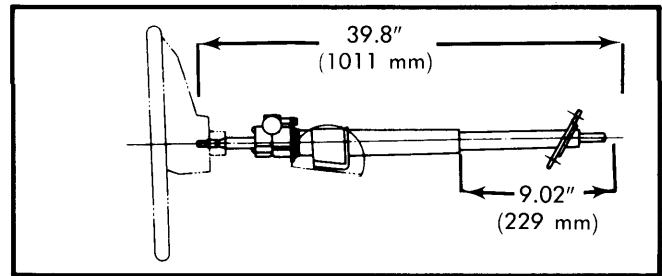

Fig. 2 Steering Column Length Measurement Points
**Inspection** — Measure steering shaft from end to end. Total length of steering shaft should be 39.8" (1011 mm). Measure lower half of steering column as shown in Fig. 2. Lower half of column should be 9.02" (229 mm) in length.